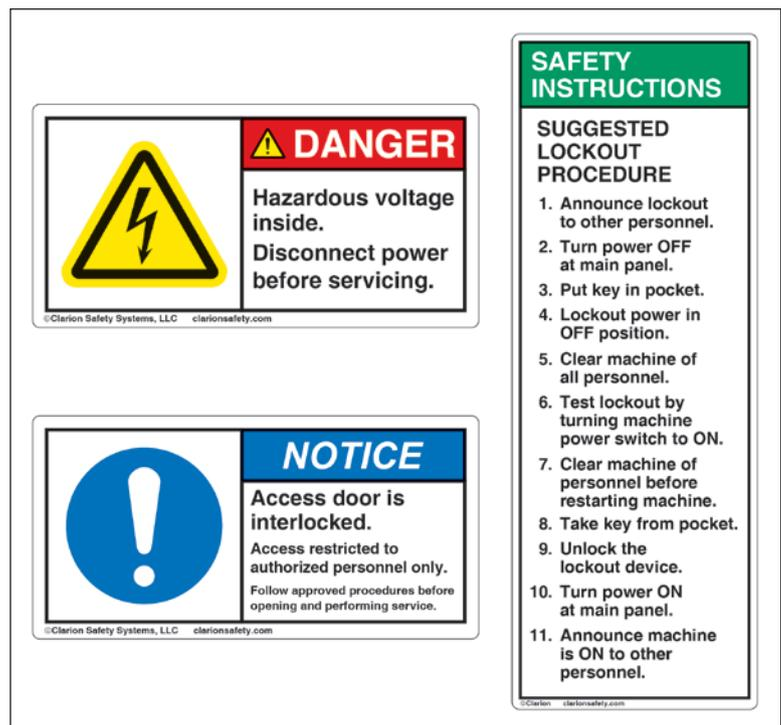

Figure 2: Examples of hazard alerting, safety instructions and notice labels
- Use standardized elements and categories of symbols and labels to convey specific meanings. The three types of ISO safety symbols typically used in product safety labeling (warning, prohibition, and mandatory action) have their own specific meanings and design criteria (see Figure 1). In a similar vein, ANSI Z535.4 contains three distinct categories of safety labels, each with their own meaning (see Figure 2 on page 3):